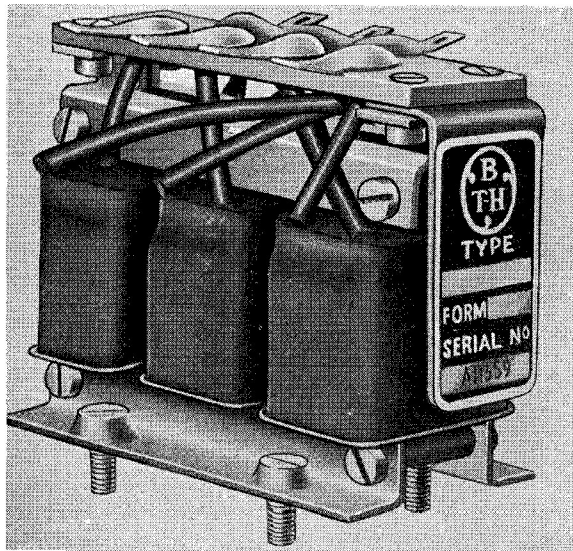

Fig. 1. Transformer, Type LTA, Form VI
1. The Type LTA, Form VI, transformer (*fig. 1*) is designed to operate on a 25 to 28V., three-phase input supply at frequencies between 150 and 400 c/s. It is rated at 4 watts on load and gives an open circuit secondary voltage of 36 volts.